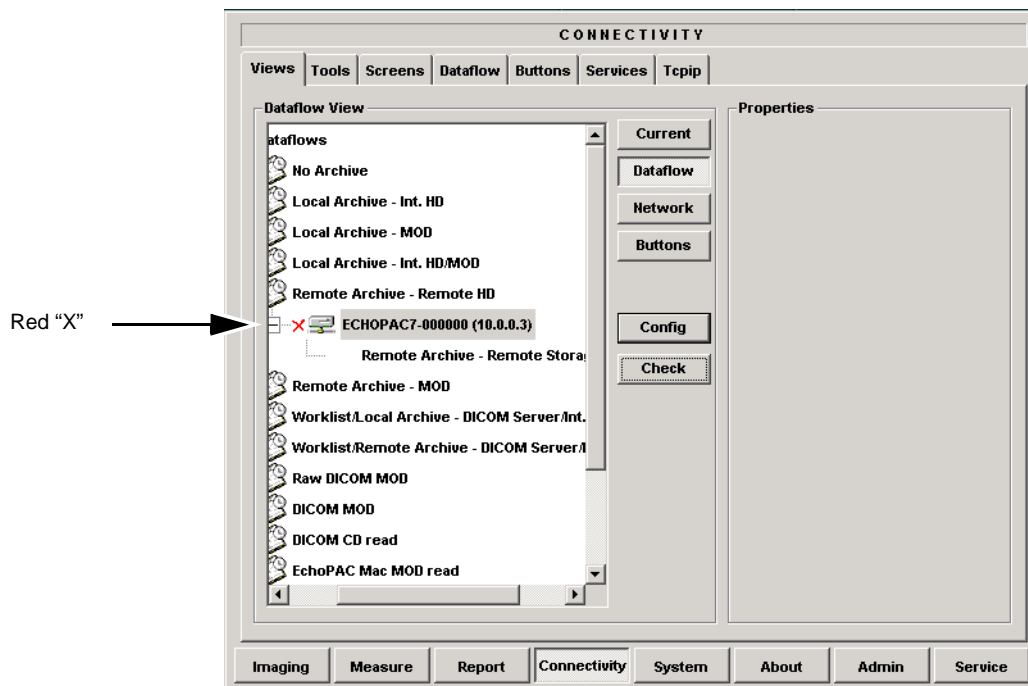

Figure 3-123 Verification of connection failed
- In the example in Figure 3-123, the red "X" next to the computer sign (✖), means that the check failed. The cause may be;